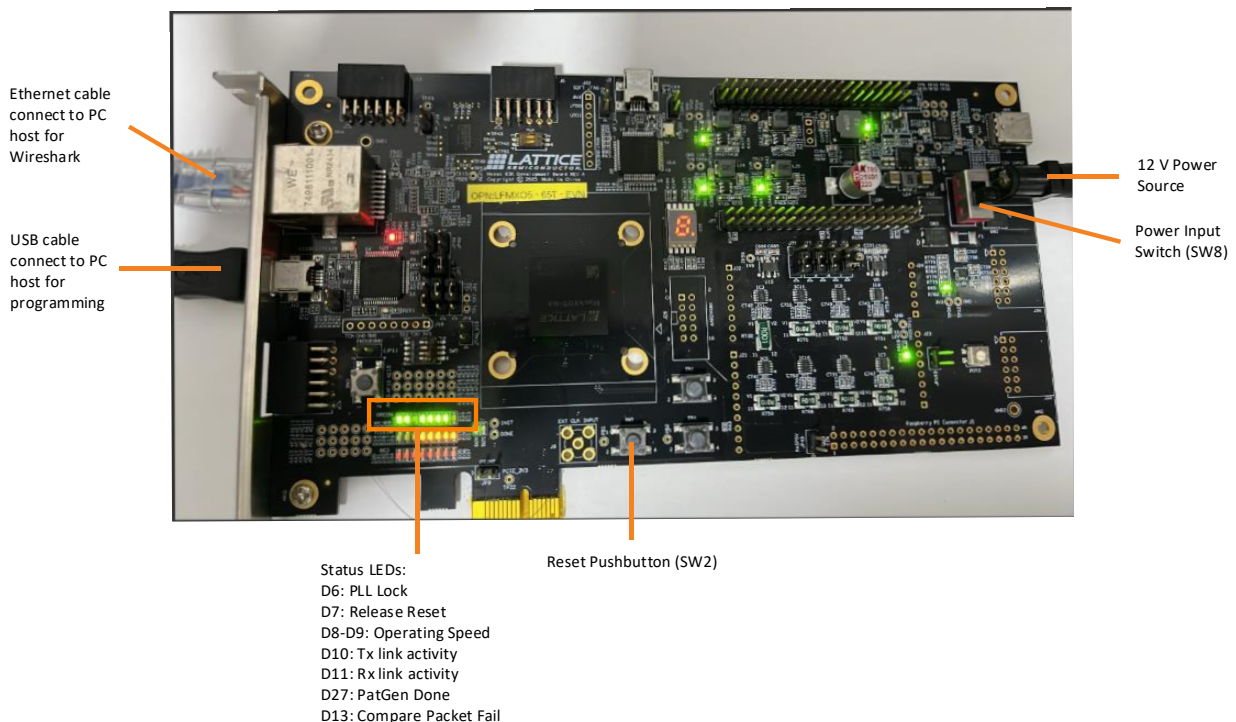

Figure 6.1. Hardware Test Setup
Figure 6.1 shows the hardware setup for the TSE RGMII reference design. The MachXO5-65T Development Board includes an on-board Ethernet PHY (Texas Instruments, DP83867ERGZT). Therefore, no additional external Ethernet PHY is required for this hardware test.
To run this hardware test, set up the hardware as shown in Figure 6.1. Hardware Test Setup, then follow the steps below:
To run the hardware loopback test, set up the hardware as shown in Figure 6.1. The Texas Instruments (TI) Ethernet PHY is configured to operate in digital loopback mode. Therefore, no modification to the hardware setup is required.